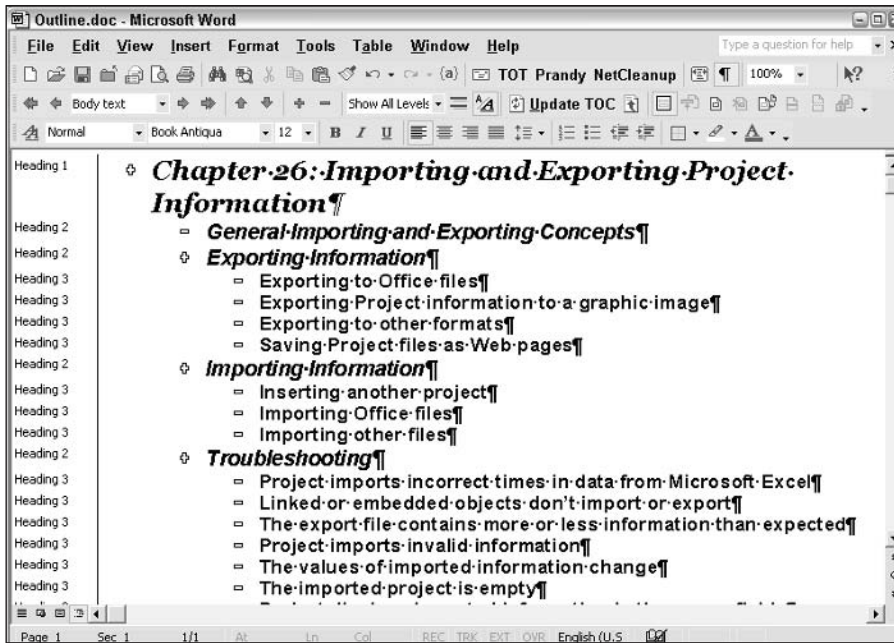

Figure 26-27: A Word document that you can paste into a Project table.
1. Open the Word document from which you want to copy information, and then copy the information to the Windows clipboard, as shown in Figure 26-27.